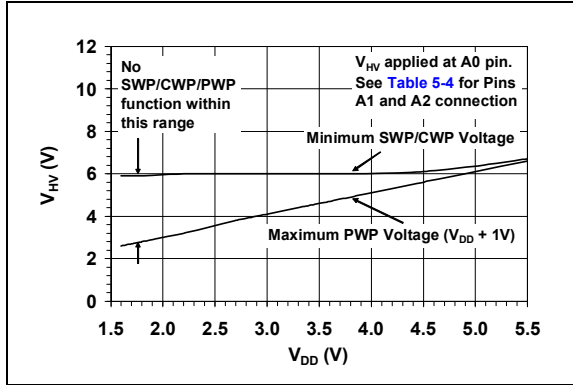

FIGURE 2-13: SWP/CWP/PWP High Voltage Range.
- 3:** The range of voltage applied at A0 pin for Permanent Write Protect is GND to $V_{DD} + 1V$. See Figure 2-13 and Section 5.3.3 "Write Protection".